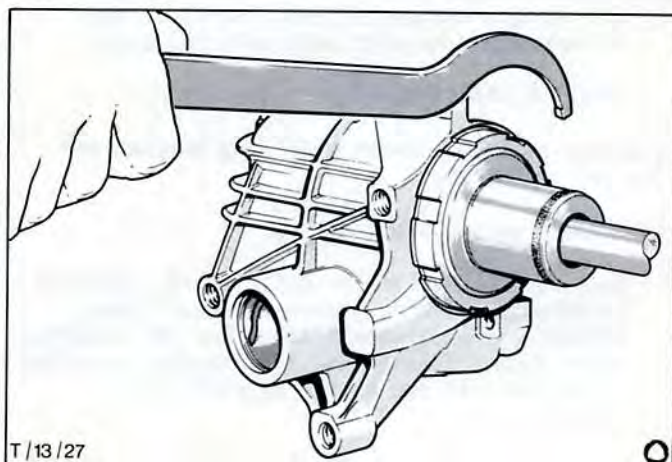

Fig.22. Remove thrust bearing adjuster, using service tool 13 002.
4. Bend back lock tang and slacken off steering shaft adjusting screw locknut using Special Service Tool 13 002. Remove adjusting screw and lock tab, Fig.22.